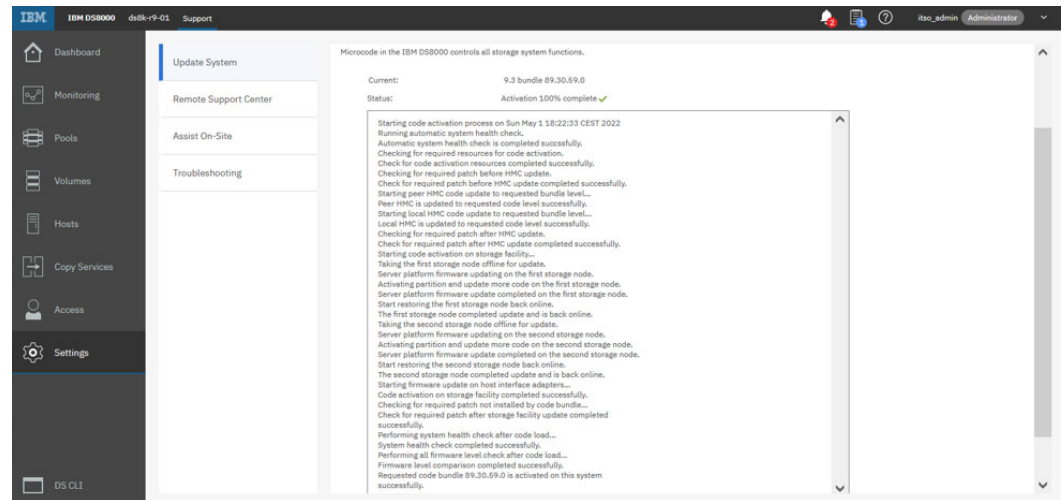

Figure 11-11 Code Activation Complete
- The code activation progress can be tracked in the Storage Manager GUI until the end. After it completes, it displays a message confirming that the activation is complete (see Figure 11-11).
If there is any unexpected situation such as hardware failure or code upgrade failure during the process, the customer is notified in the window that is shown in Figure 11-11. There will be a case number in that notification, which can be used as a reference for when the client engages IBM Remote Support.